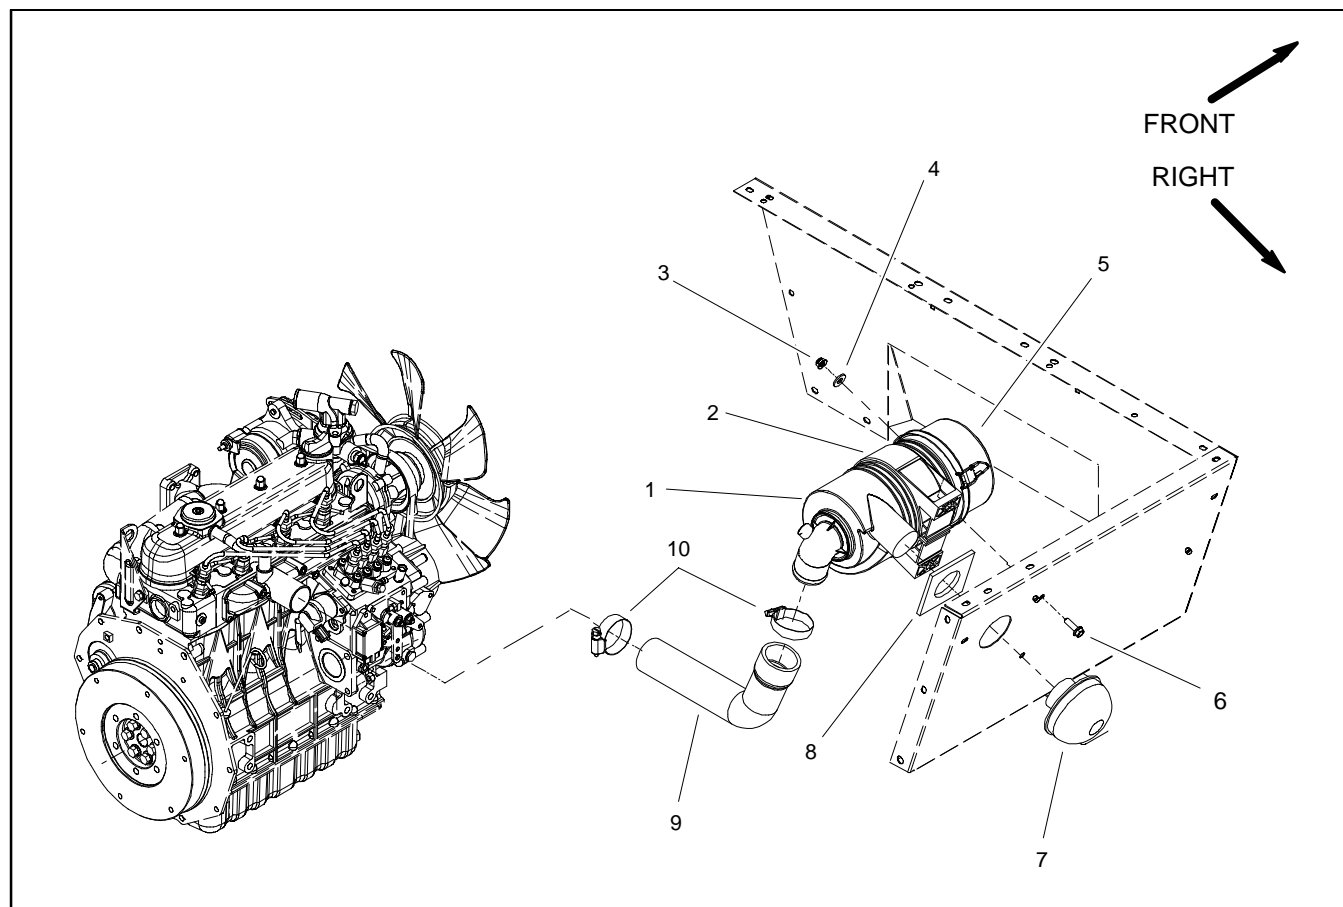
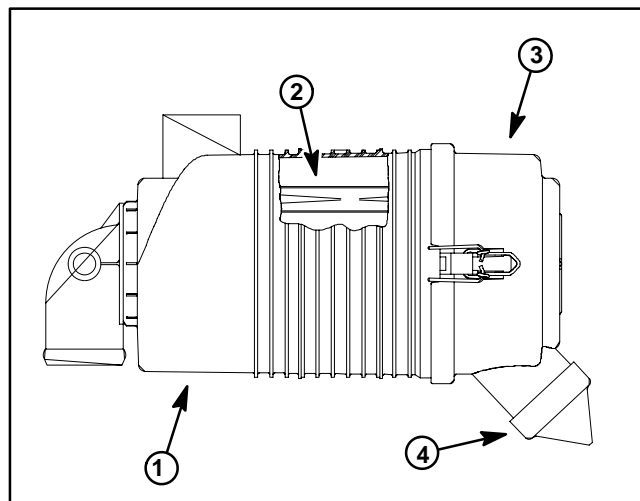

Figure 4
Figure 5
Removal (Fig. 4)
2. Remove air cleaner components as needed using Figure 4 as a guide.
Installation (Fig. 4)
1. Assemble air cleaner system using Figures 4 as a guide. Make sure that vacuator valve on air cleaner cover points downward after assembly (Fig. 5).